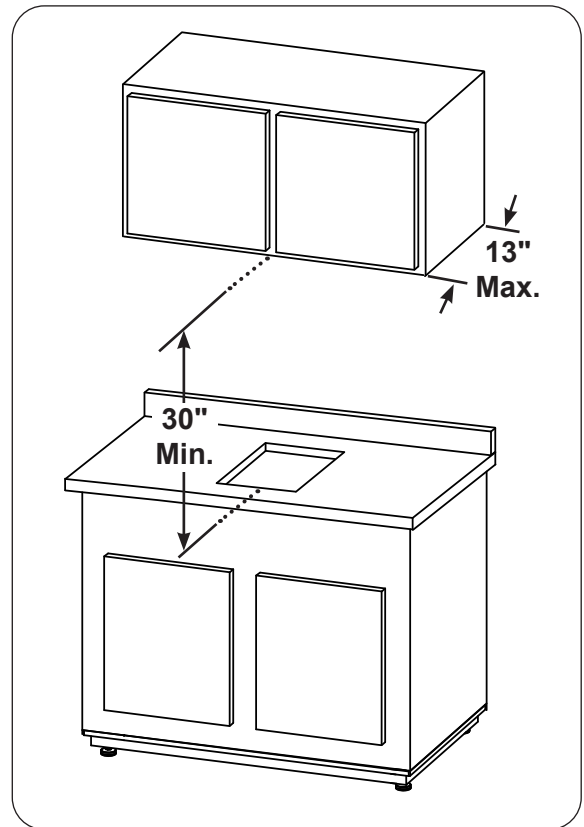

Fig. 18-1 Overhead requirements
- A minimum clearance of 30" (Fig. 18-1) is required between the countertop and any overhead construction directly above the electric induction cooktop.
- A maximum depth of 13" (Fig. 18-1) is permitted for the overhead construction.